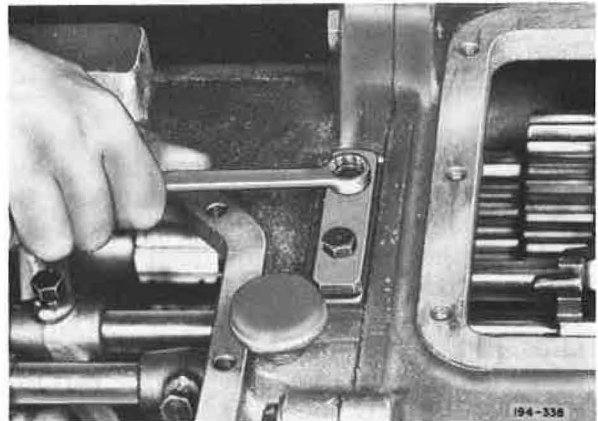

Figure 5-121. Removing Main Case Shifter Rail Poppet Ball Cover
2. Remove compound case top opening cover, then remove shifter rail poppet spring. Remove main case top opening covers. Cautiously, remove shifter rail poppet ball cover (cover is spring-loaded), pins and springs. See Figure 5-121. Poppet balls may then be removed with a magnet.